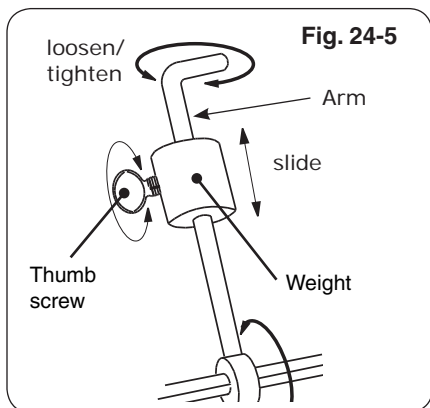
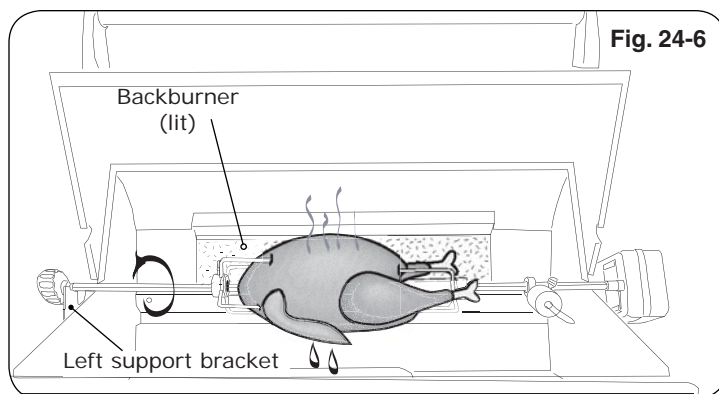

Fig. 24-5
Fig. 24-6
7. Slide the counterbalance weight up or down the arm until the rod rotates most evenly then tighten thumb screw (Fig. 24-5 and Fig. 24-6).